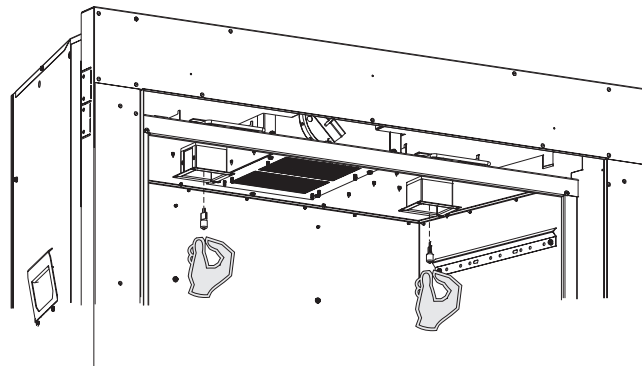

Figure 88
2. Remove old light bulb and replace with a new one. (See Figure 88)